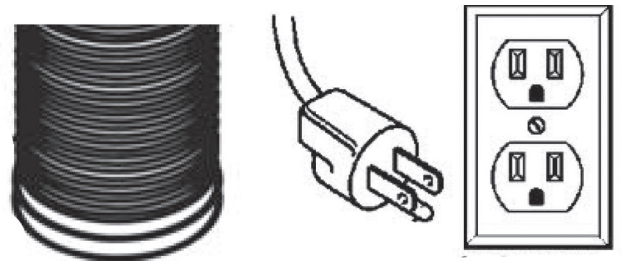

Figure 4
- 5 Make your electrical and ducting connections. Try and minimize the use of elbows. More elbows and longer runs create higher static pressure. The hood comes with a grounded three prong plug that can either be direct wire or plugged into a 20amp. circuit. (Figure 4)
- 5 Install the transition piece securing it with screws provided. (Figure 4)